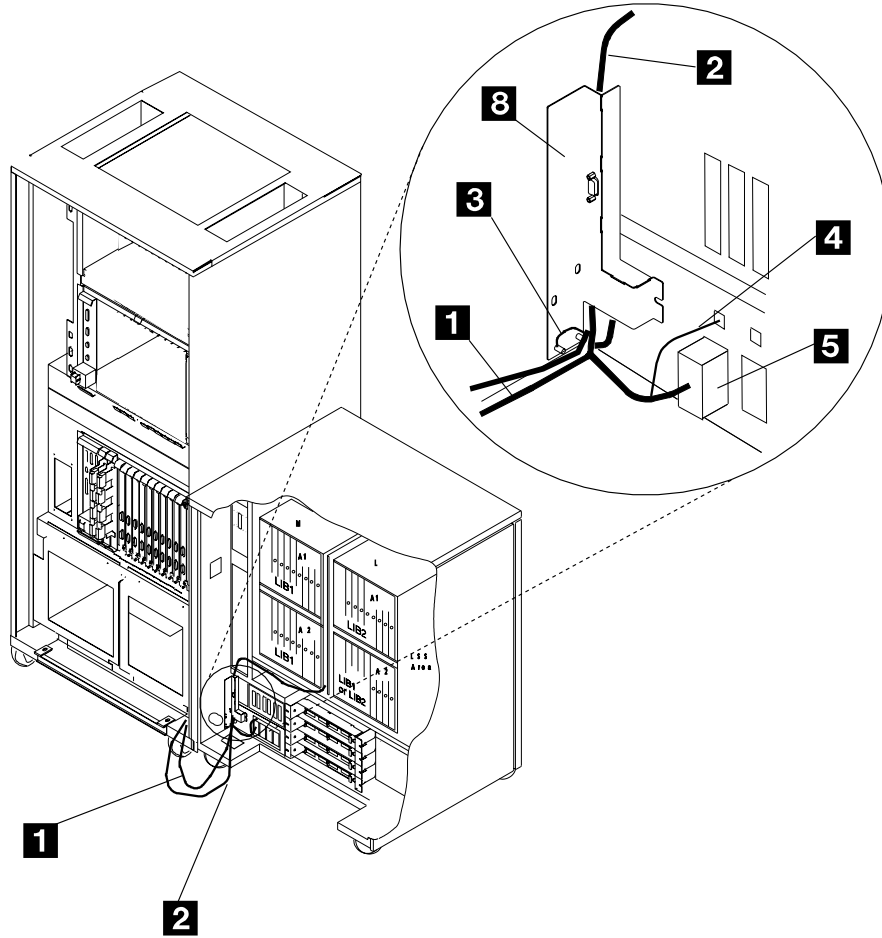
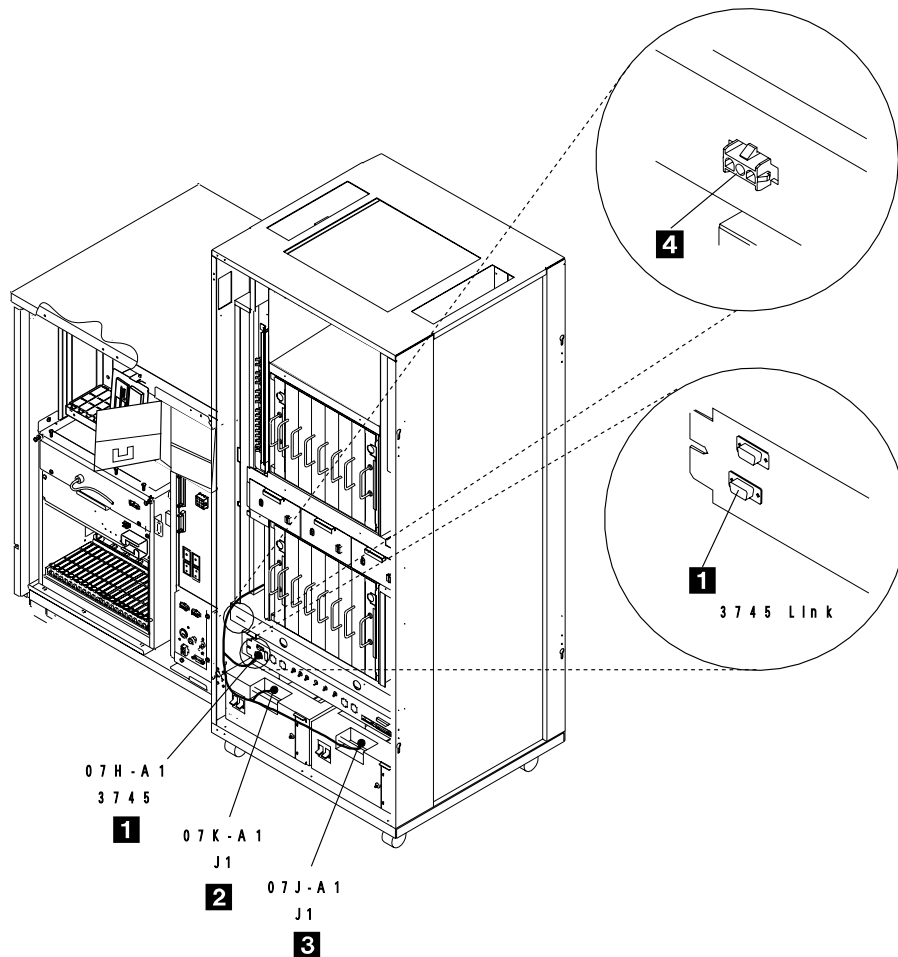

Figure 6-2. Power Control Cable Connection to the 3746-900 Power Box
Figure 6-4. Power Control Cable Connection to the 3746-900 Power Box
- Step 3. \_\_\_\_ Route the cable (PN 17G5923) through the 3746-900, along the bottom of the 3746-900 and 3745 base frames, through the 3745 frame, and up to the 3745 control panel. Refer to Figure 6-2 on page 6-4, cable **2**. The ground lead **3** will be installed later when the power control cable will be connected.
- Step a. \_\_\_ Route the power control cable from the rear side of 3745 (grounding area 01W) to the rear side of the 3746-900, then through the 3746-900 frame (see Figure 6-2, cable **1**, and Figure 6-4 on page 6-6).